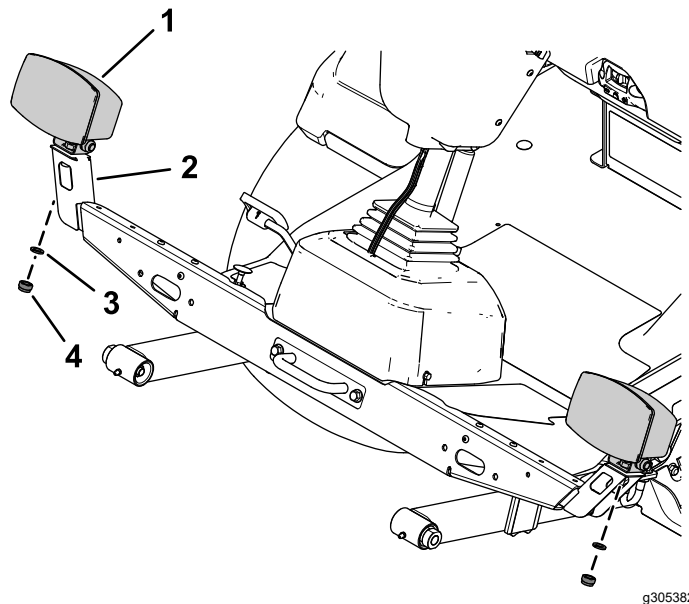

Figure 14
- Secure the left light assembly and right light assembly to the left light mount and right light mount using the lock washer and hex nut on the light assemblies (Figure 14).